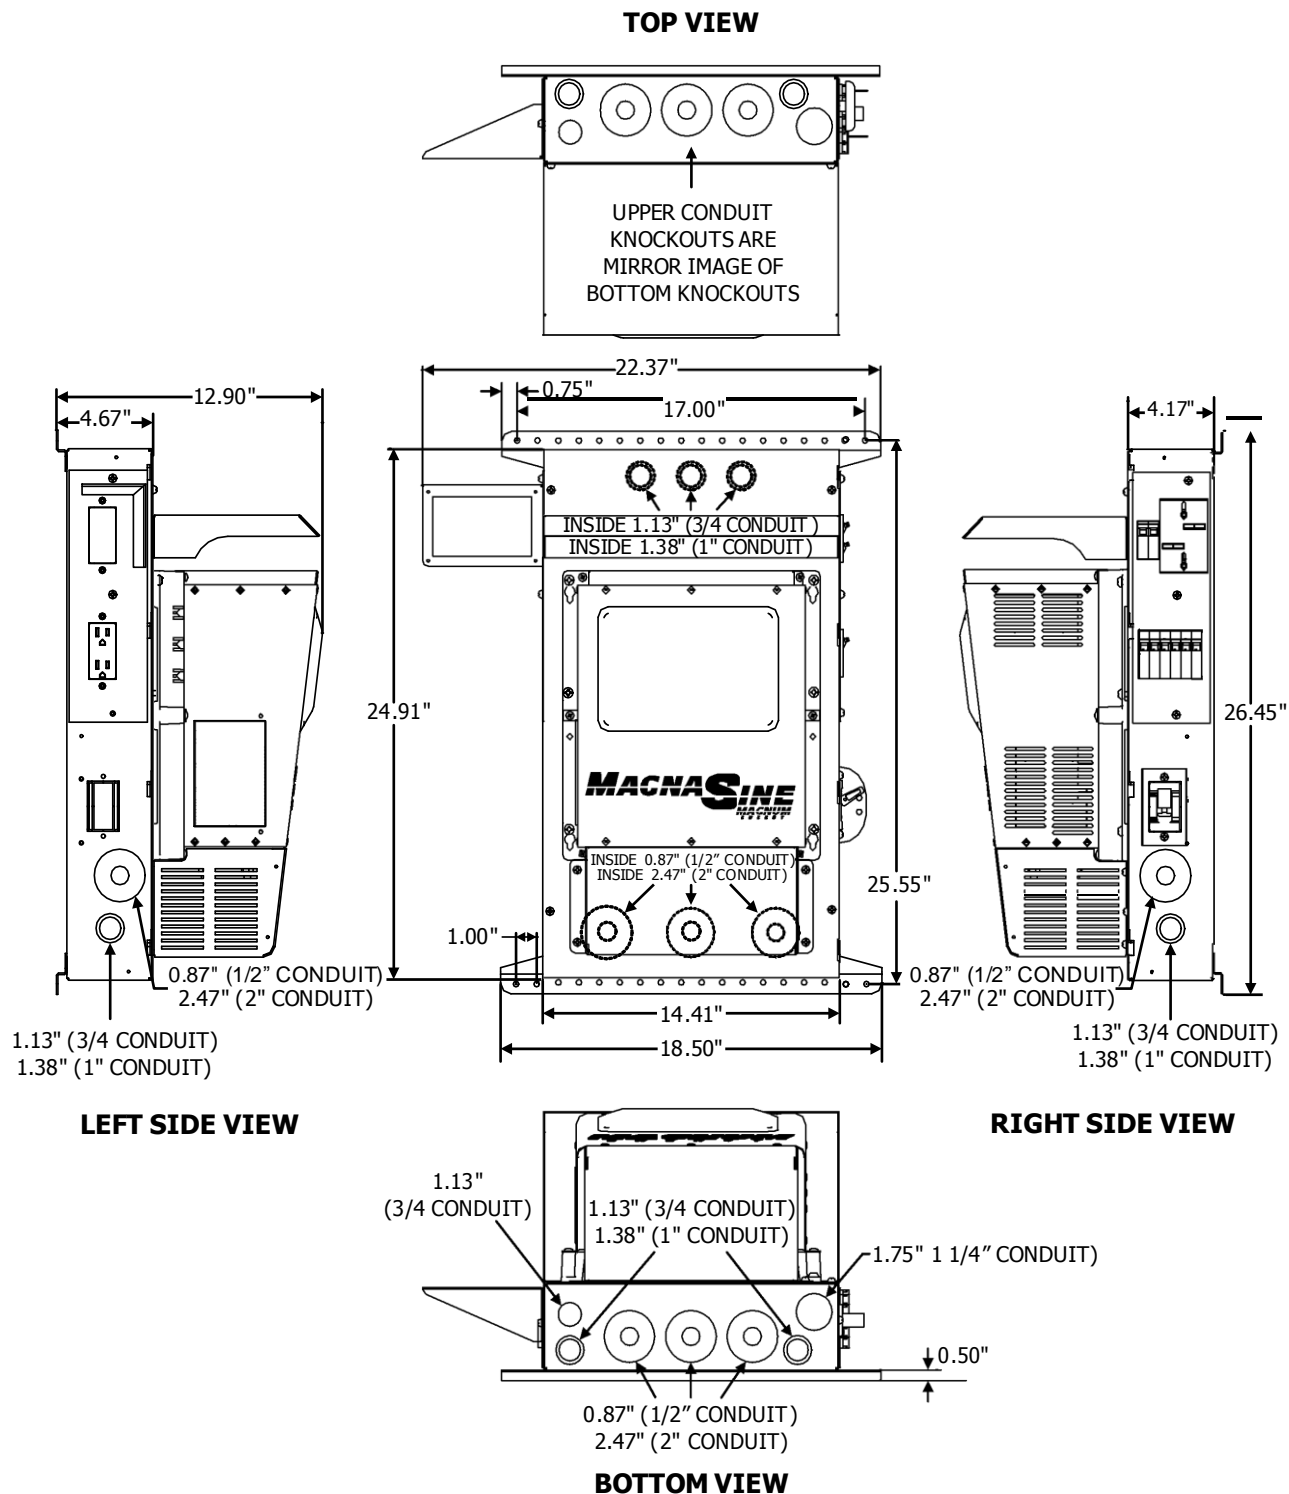

Figure 3, MNE-240 Series E-Panel Dimensions and Knockout Sizes
**Info:** See Figure 3 for the location and dimensions for the knock-outs on the MNE-240 Series E-Panel.
The dimensioned chassis drawing in figure 3 shows the location of the conduit knockouts, mounting holes and mounting brackets.